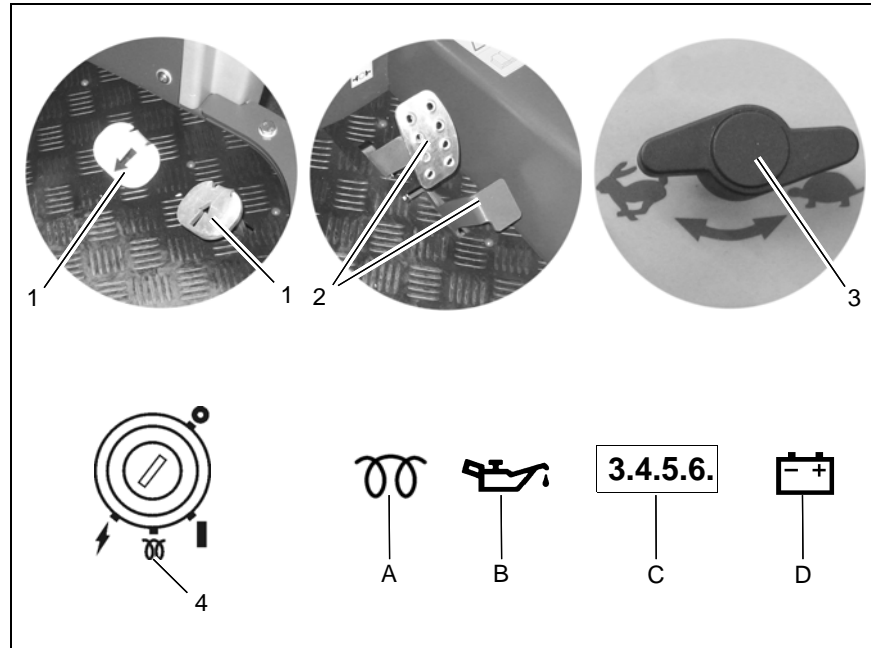

Fig.4
1. The accelerators (Fig. 4/1) must be in their neutral setting.
2. The vehicle's parking brake must be applied (Fig. 4/2).
3. Set the engine speed switch (Fig. 4/3) to working speed (hare).
4. Turn the ignition key clockwise to the preheating device icon (Fig. 4/4). Allow to preheat until the control lamp (Fig. 4/A) goes out (max. 20 seconds).
- The operating hour counter (Fig. 4/ C) displays the software version, possibly the last diagnostic code and the operating hours in succession. The control lamps for the engine oil pressure (Fig. 4/B) and charge control (Fig. 4/D) light up.